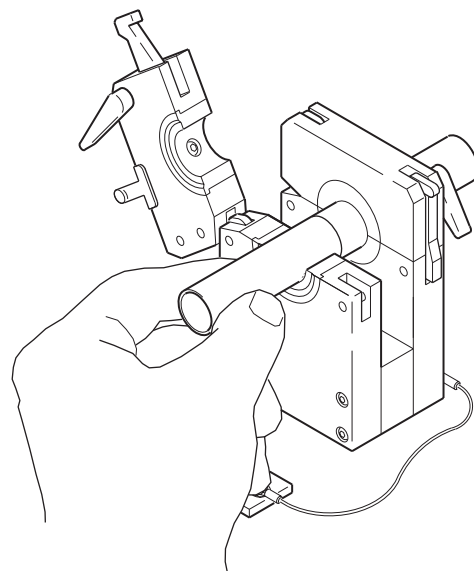

Figure 15 Placing Second Work Piece
5. Butt the second work piece against the first work piece, and lock down the top side plate. See Figure 15.